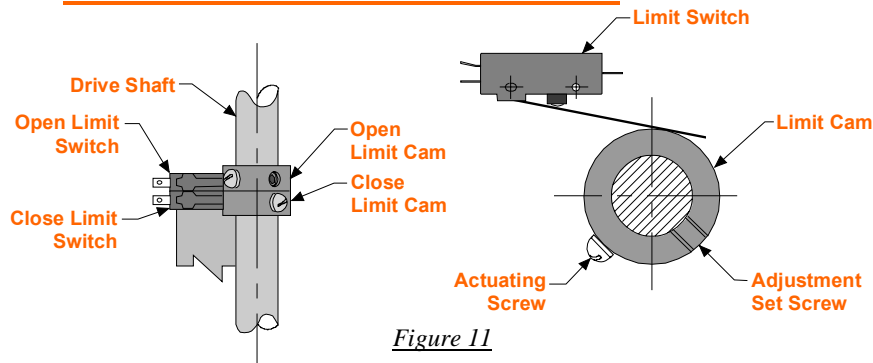

Figure 11
NOTE: Operator should be completely installed, mechanically and electrically, before attempting to set limit switch cams (See Fig. 11).
2. To adjust gate for more open travel, loosen open limit cam set screw and rotate limit cam, in the opposite direction drive shaft rotates to open gate. Re-tighten set screw after adjustment (See Fig. 11).
2. To adjust gate for more close travel, loosen close limit cam set screw and rotate limit cam, in the opposite direction drive shaft rotates to close gate (See Fig 11).